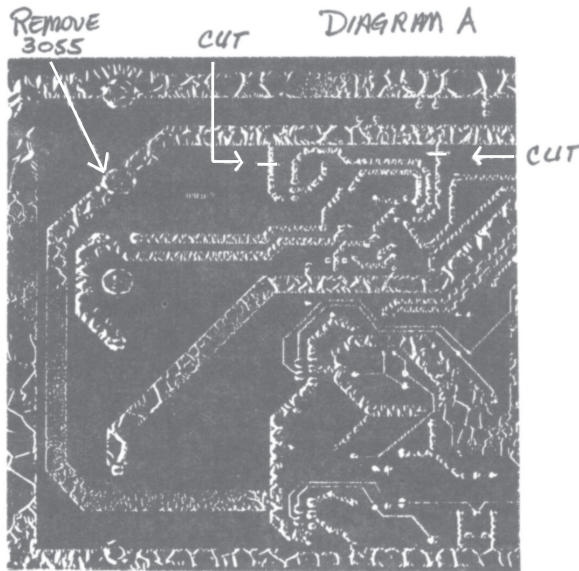

FIGURE 3
- Remove the two Regulator/Audio II boards. Cut the two traces shown on *Figure 3*, then remove Q3 (2N3055) and make sure R29, R30 have been removed and replaced with wire jumpers, if you haven't done that modification already. Refer to the outline on *Diagram A*. Replace Regulator/Audio II boards.